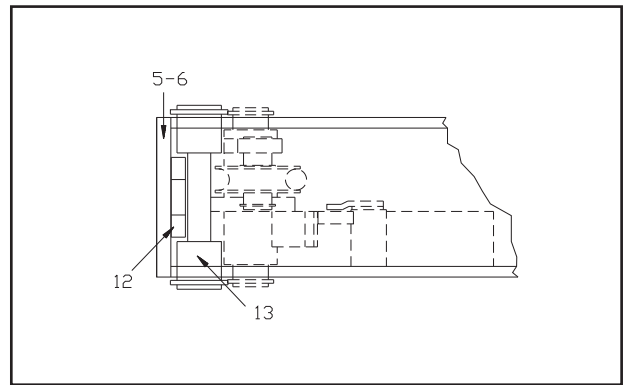

Fig.46
Fit the safety rods (12) from the top of the posts, inserting them between the rear face of the cross-pieces (5-6) and the guide pins (13) as shown in figure 46.